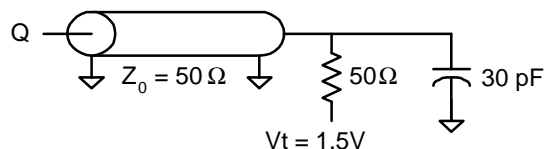

Fig. 1 OUTPUT LOAD EQUIVALENT
Output load	See Figures 1 and 2
- Test conditions as specified with the output loading as shown in Fig. 1 unless otherwise noted.
- Capacitance derating applies to capacitance different from the load capacitance shown in Fig. 1.